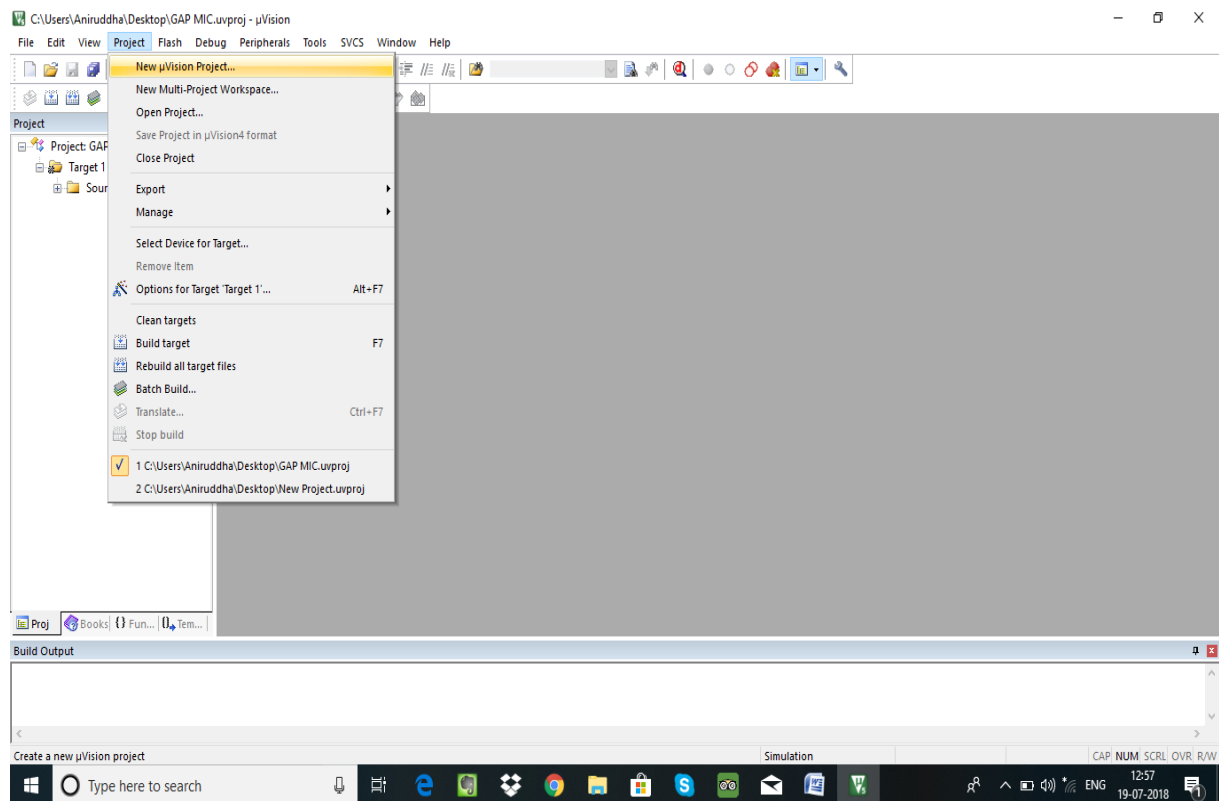

Figure. 3
2. To create new project, Click and select new project. Fig.3